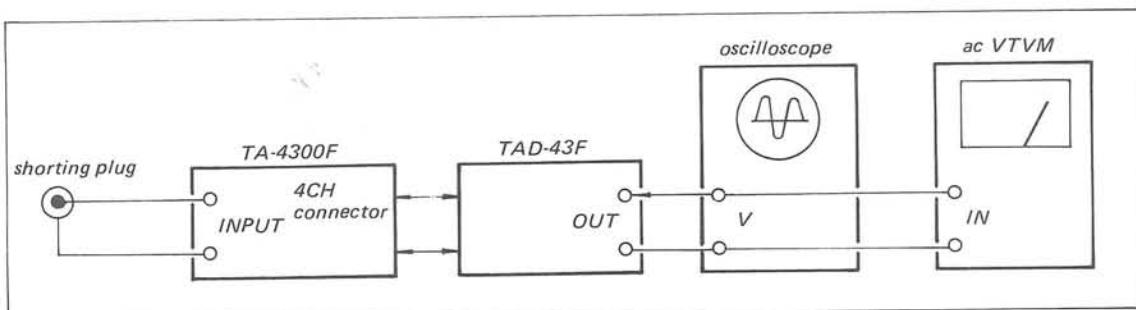

Fig. 3-3 Noise level check test setup
- With the equipment connected as shown in Fig. 3-3, follow the procedures given in the Table 3-3.